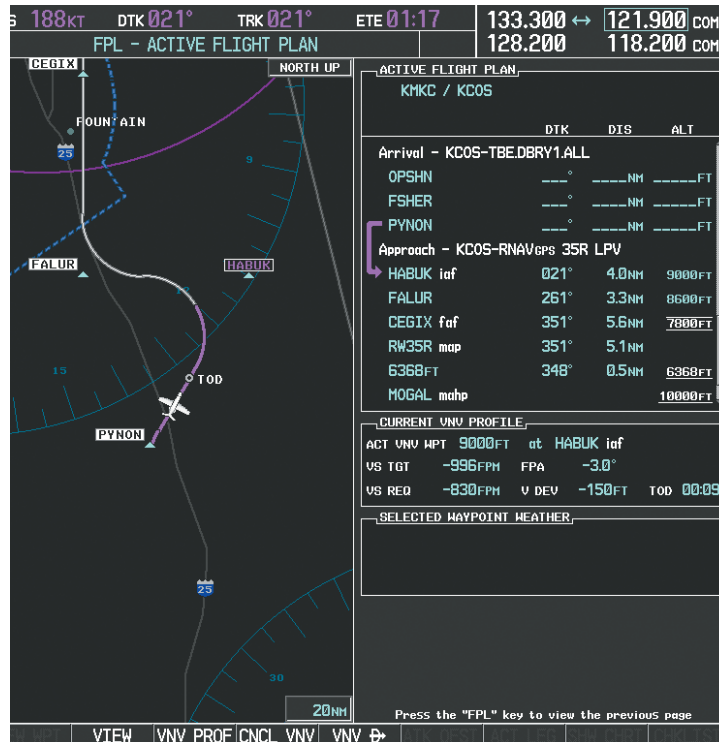

Figure 5-146 Approach is Now Active
- 21) Upon passing PYNON the approach procedure automatically becomes active. The approach may be activated at any point to proceed directly to the IAF. In this example, the aircraft has progressed through the final waypoint of the arrival and the flight plan has automatically sequenced to the IAF as the active leg, activating the approach procedure (see Figure 5-146).